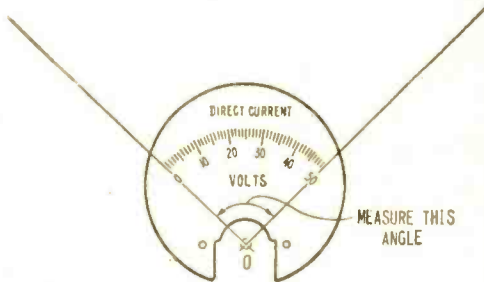

Fig. 2. Carefully measure angle of arc by placing protractor between radii and centered at O. Record reading for use later when calculating new scale.
**Drawing the New Arc.** Next, draw two lines from point O exactly through the ends of the meter scale, extending them so that they are 3 to 4 times the length of the radius of the scale, as shown in Fig. 2. Using a protractor accurately measure the angular distance between the two straight lines, and record it for later use. Using point O as a
Fig. 6. When new scale divisions are not even multiples of original scale, divide arc length measured earlier (refer to Fig. 2) by number of new scale divisions desired. Extend all graduations through point O to assure correct slant of markers.